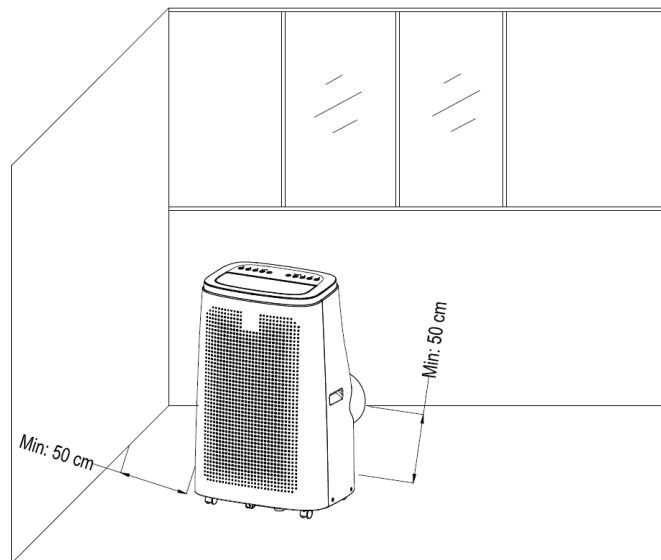

Figure4
3) Move the unit with installed heat pipe and fittings before the window, and the distance between the body and walls or other objects shall be least 50 cm (as shown in Fig.4).